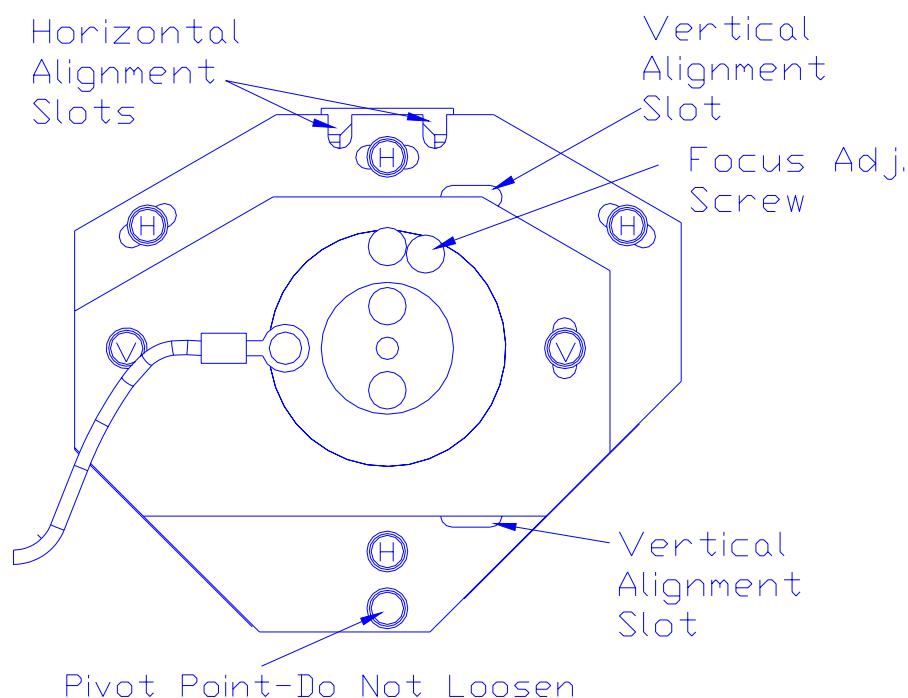
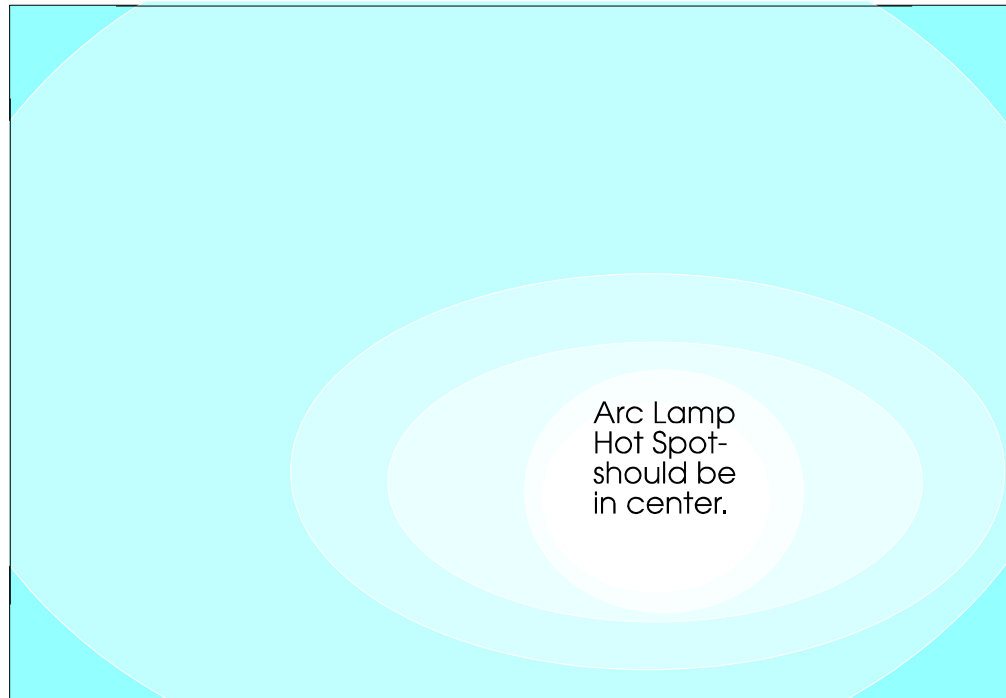

Figure 3-1. Arc Lamp Focus adjustments.
Figure 3-2. Arc Lamp “Hot Spot” (whitest area) is off-center vertically and horizontally. Adjust to center the “hot spot”.
7. Defocus the Arc Lamp by turning the Focus Adjust Screw (see Figure 3-1) until a bright, circular area (see Figure 3-2) is achieved. This is the Arc Lamp's "hot spot." The sides, top, and bottom areas will taper off in brightness. When performing defocus, do not attempt to narrow the circle too much-try to obtain a uniform circular area.
8. Loosen the 4 X-axis (horizontal) alignment screws (indicated by the letter H inside the screw heads in Figure 3-1).
9. Insert a flathead screwdriver into one of the horizontal alignment slots shown in Figure 3-1 and pry back and forth to slide the plate. Center the “hot spot” horizontally.
11. Loosen the 2 vertical alignment screws indicated by the letter V inside the screw heads in Figure 3-1.
12. Use a flathead screwdriver in the vertical alignment slots, shown in Figure 3-1, to pry the vertical plate up or down so that the “hot spot” is centered vertically.